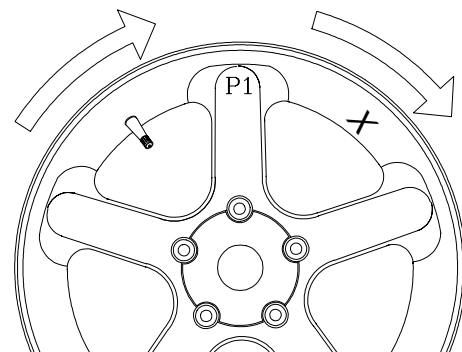

Figure 34
7. The display will read “**SPO 1**”. Locate the first spoke nearest to top dead center and rotate the wheel so that spoke is at top dead center. See Figure 34. Press **P** to store first position.